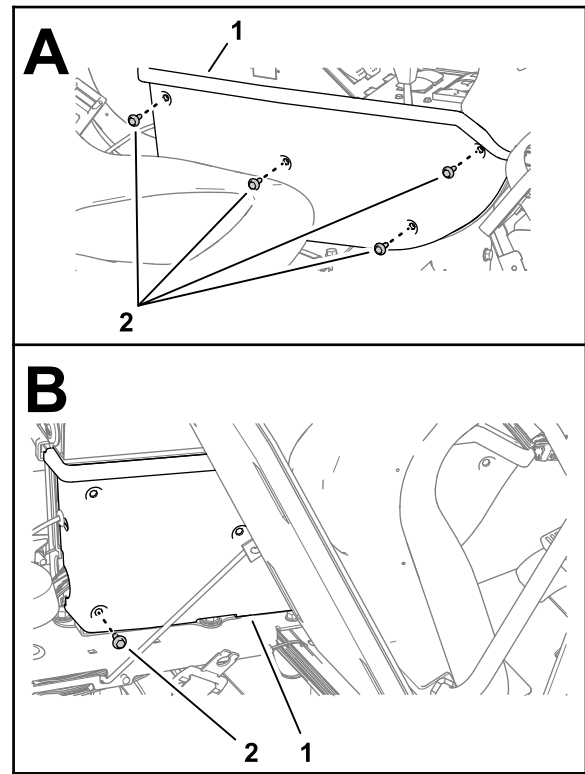

Figure 176
1. Assemble the side panel to the console frame (Figure 176) with 4 flange-head cap screws (1/4 x 3/4 inch).
2. Tilt the seat forward and install the lower rear flange-head cap screw (Figure 176).